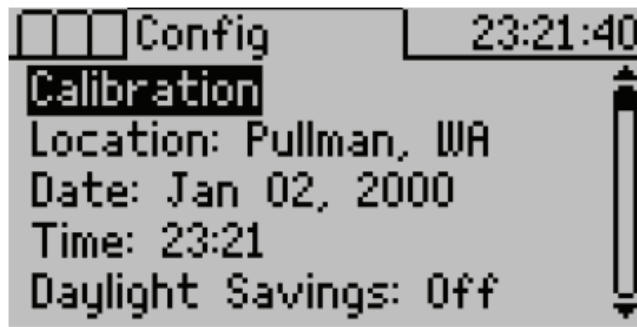

Figure 1 Configuration tab
2. Press MENU to navigate to the Configuration tab (Figure 1).